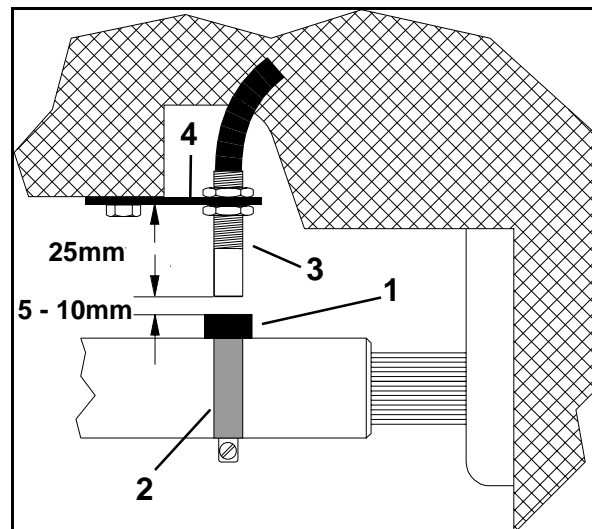

Fig. 177
1. Fix the magnet (Fig. 177/1) by using the hose clamp (Fig. 177/2) on the cardan shaft.
2. Fix the sensor (Fig. 177/3) by using a universal carrier (Fig. 177/4) opposite the magnet on the vehicle frame.